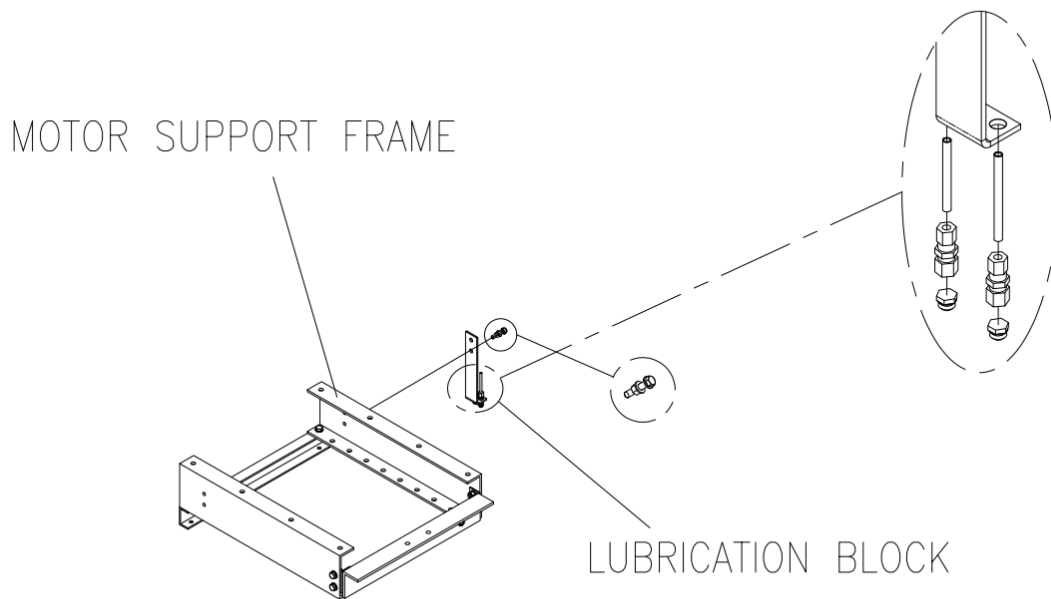

Figure 3-17 Lubrication Block Location
- J. Unscrew the grease nipples from the fan shaft bearings to screw them into the lubrication block fitted on the side of the motor supporting frame (See Figure 3-17). Then connect copper (or stainless steel) lubricating lines between the two shaft bearings and the block using the fittings provided for this purpose.